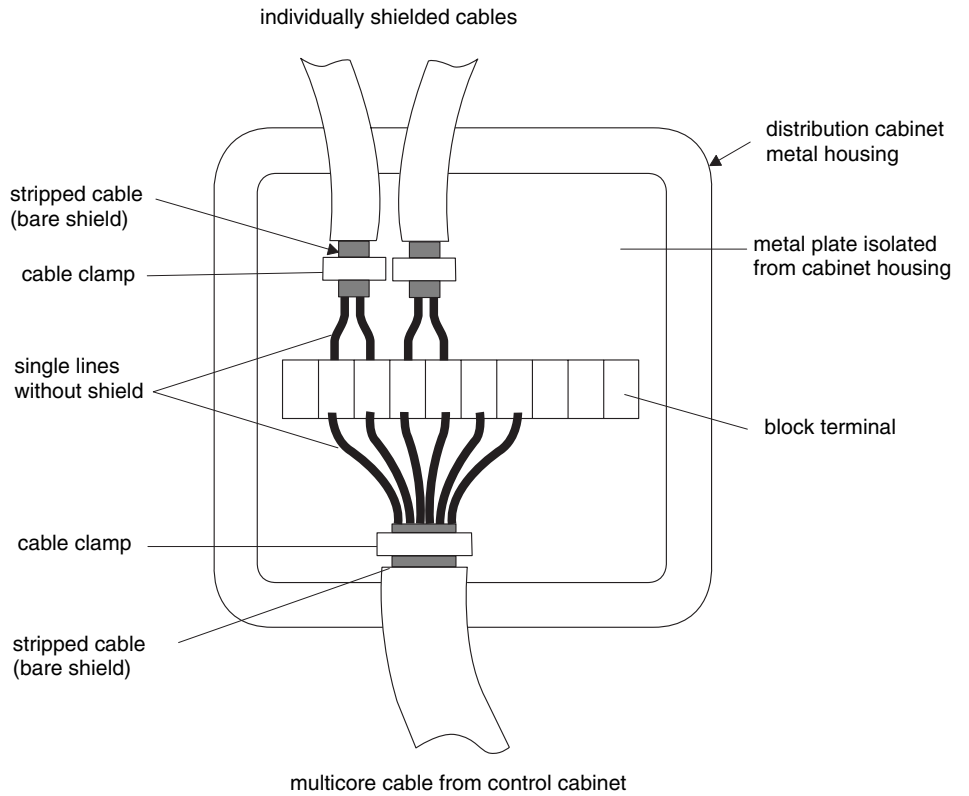

Figure 6.5 Junction box with internal wiring
- When an additional distribution box is used e. g. for dividing a multicore cable into separate cables keep in mind that the potential of the cable shields has to be isolated from the metal enclosure of the distribution box. The distribution box must be made of metal. It's permitted to connect the metal enclosure to a protective conductor. For additional details, see Figure 6.5.